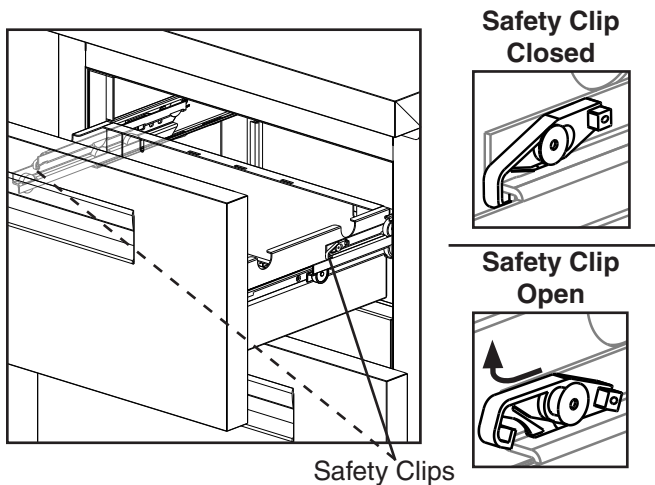

**Fig. 43**
- **To remove a drawer:** Remove all items from the drawer. Pull the drawer out to its fully extended position. Open the safety clips (one on each side) by sliding them forward, then rotating them up. See Fig. 43. Lift up on the handle slightly, then pull to disengage the drawer. Be sure to support the rear and front of the drawer while removing it.